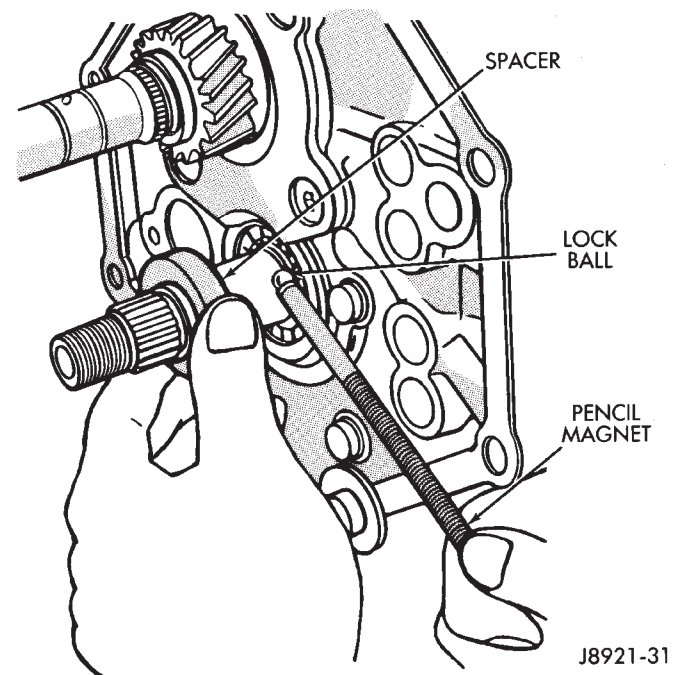

Fig. 23 Spacer And Lock Ball Removal
(5) Remove spacer and remove lock ball with pencil magnet (Fig. 23).